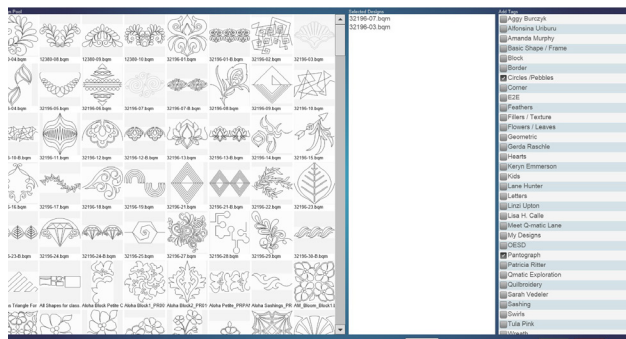

Fig. 6
2. Select Add and the screen will open with three columns. The first holds all your designs. The second is blank. The third is all of the available tags (Fig. 6).